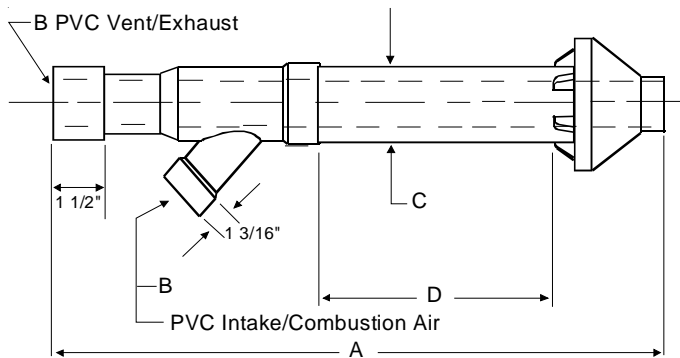

FIGURE 4
- Refer to Figure 4 for Concentric Vent Dimensional Drawing and refer to Table 1 for Concentric Vent Dimensions.